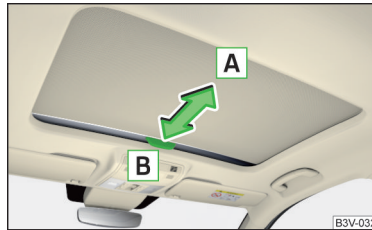

Fig. 43
- » To open, pull the handle in direction of arrow **A** » Fig. 43.